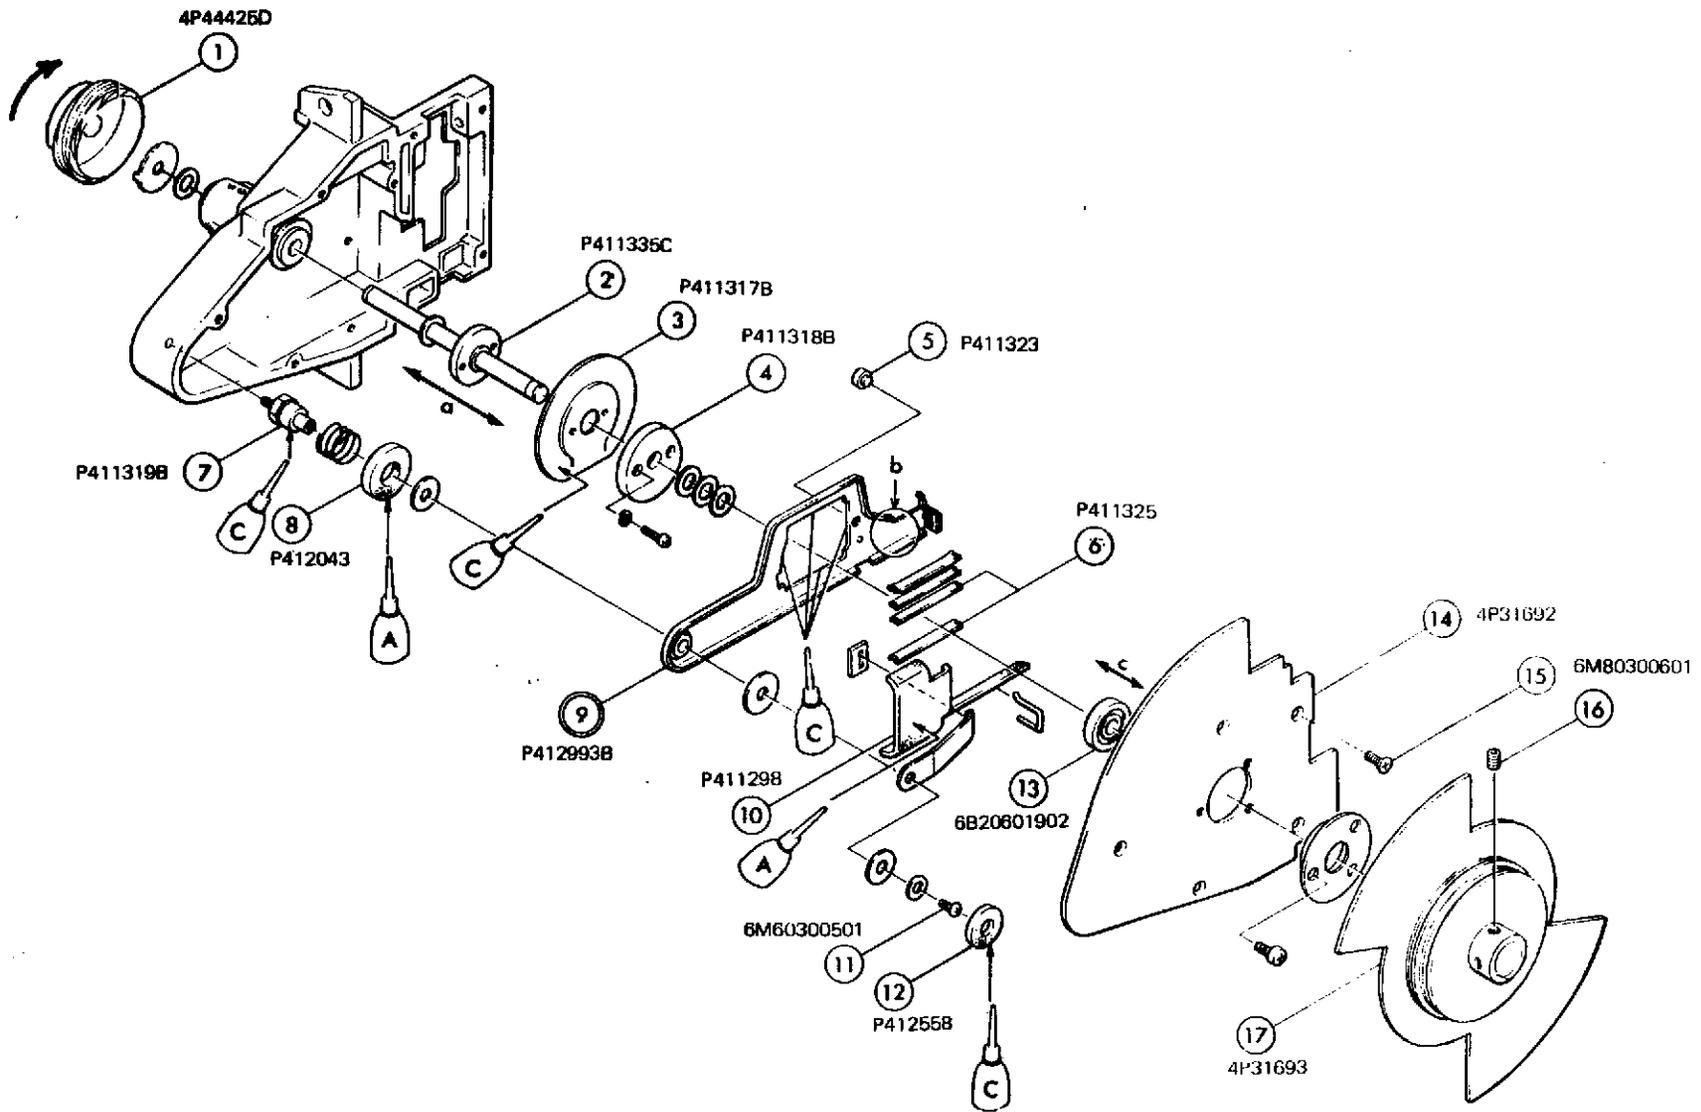

Fig.5
TROUBLESHOOTING: Refer to Fig. 5.
1. Unscrew (16) x 2 to remove (17).
2. Unscrew (15) x 5 to remove (14).
3. Unscrew (11) to remove (9).
4. Refer to Fig. 5 to disassemble further.
REASSEMBLY: Refer to Figs. 5, 6 and 7.
1. Attach (1) in place (2) can turn smoothly without rattling in the arrow direction "a" in Fig. 5.
2. Attach (3) after checking the surface of (3) for no burrs or no scratch.
3. If there is a play between (4) and (6), (6) is worn-out. If so, replace it.
4. If (5) is worn-out, replace and fix it with "ARON ALPHA".
5. Apply a washer between (4) and (13) so that (13) can turn smoothly without rattling in the arrow direction "c" in Fig. 5.